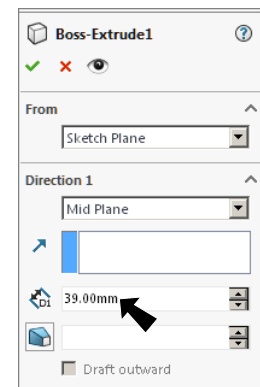

Fig. 14
- Step 2. In the Property Manager set: under Direction 1, Fig. 14 change **Depth**  to **39** click OK .